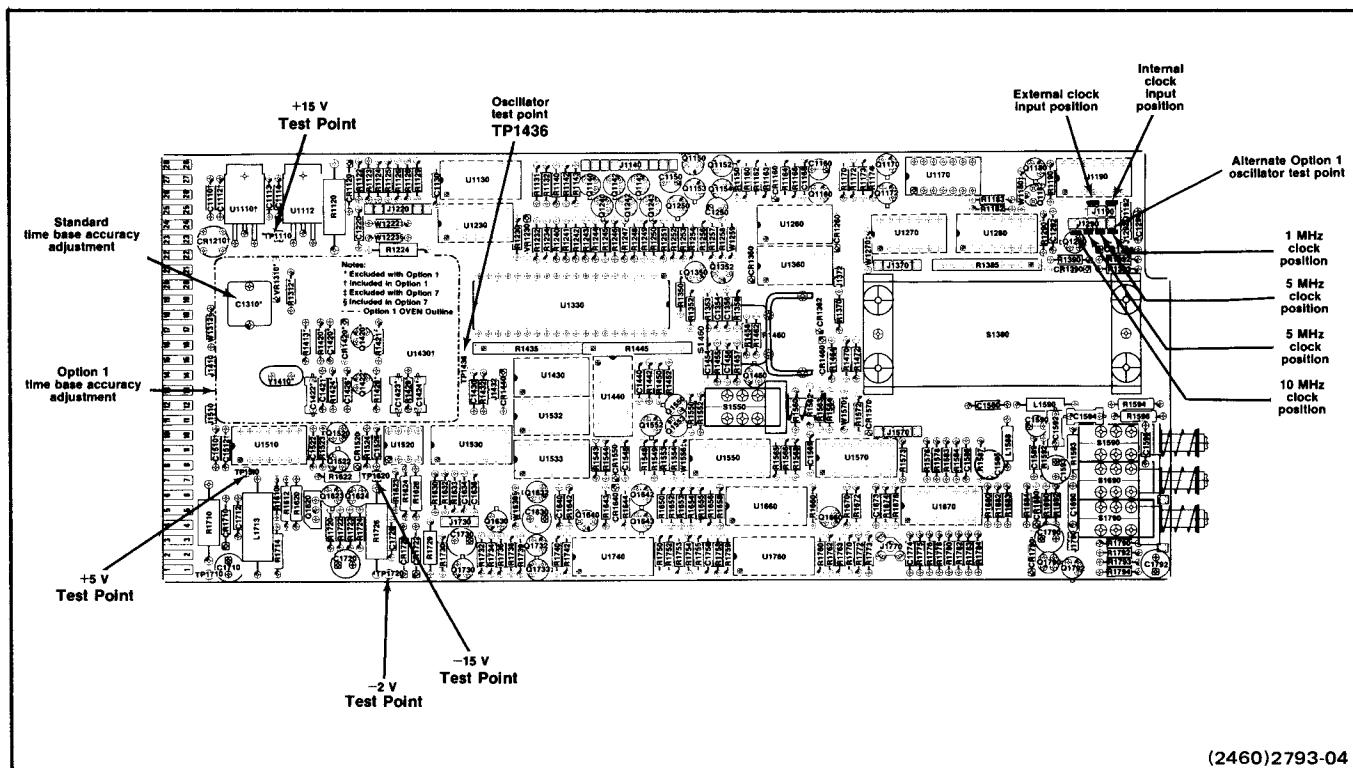

Fig. 4-1. Location of test points and adjustments on Main circuit board.
a. Connect the digital voltmeter between each voltage test point and ground for the supplies listed in Table 4-2. See Fig. 4-1 for test point locations.
- a. Connect the 10X probe to the vertical amplifier (real time) input connector; connect the probe tip to the oscillator test point, TP1436. See Fig. 4-1 for test point location.
g. Adjust—C1310, time base accuracy adj, slowly until the displayed time marks remain stable, horizontally. See Fig. 4-1 for adjustment location.